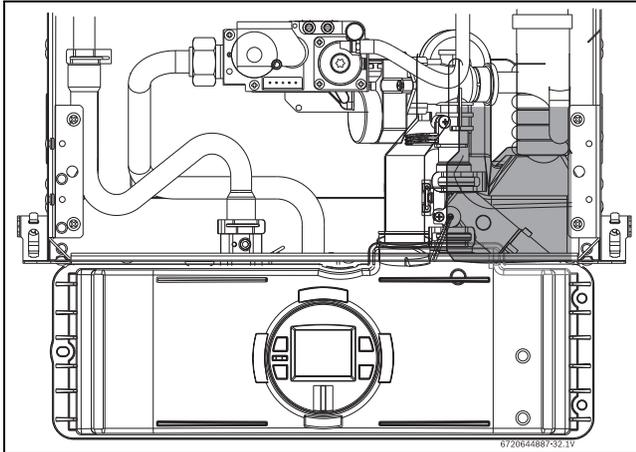

Fig. 38 Water level in condensate trap
► Put the control unit in service position by engaging its tabs with the holes in the bottom horizontal sheet metal, see fig. 38.